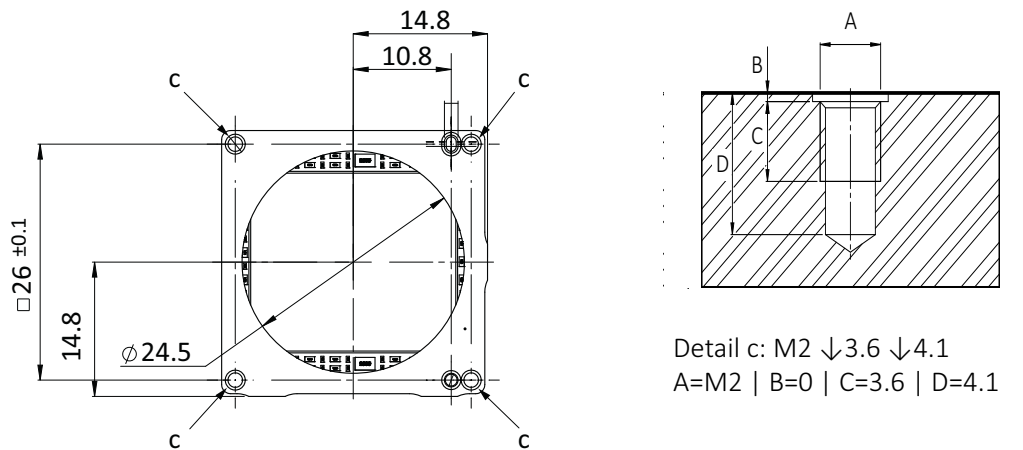

Figure 98: Mounting threads Alvium Frame
As shown in Figure 98, mount the camera to the base using suitable M2 screws for the 4 mounting threads: At 0.4 Nm maximum torque for a thread engagement (C) of 3.6 mm between screws and mounting threads.